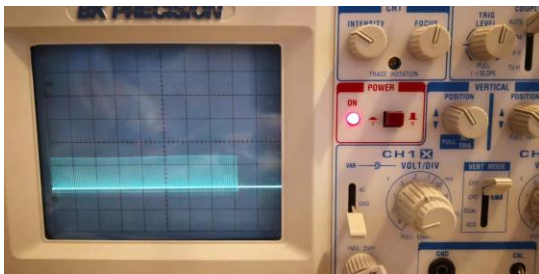

Fig 5. Pulses measured at J1 to J4.
8. Place scope probe across pin 1 and pin 2 of J1 (probe pin to pin 1 and ground to pin 2 of J1), the trigger pulse output from the board can be seen in the Fig. 5 below. Repeat the same way to measure at J2, J3 and J4.